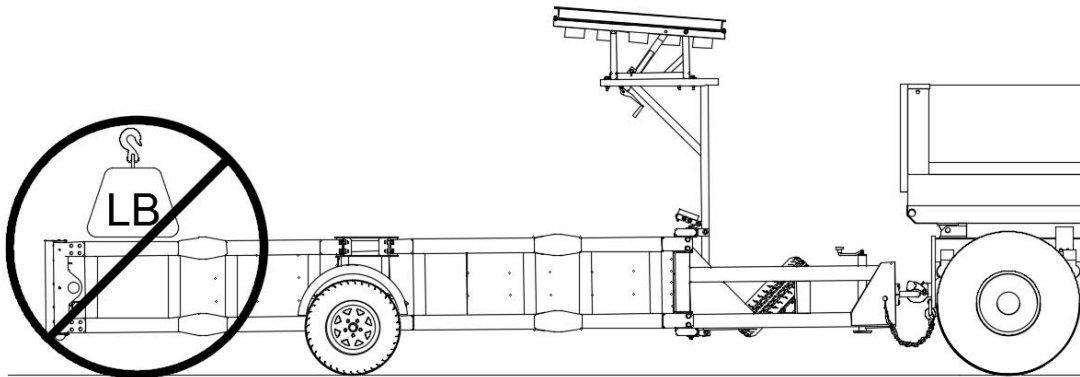

Figure 5
3. The SMT™ is designed to absorb the crash energy and to support its own weight if impacted within the applicable MASH criteria. Do not drag the TMA or place anything on its top: damage may result (Figures 5 and 6).